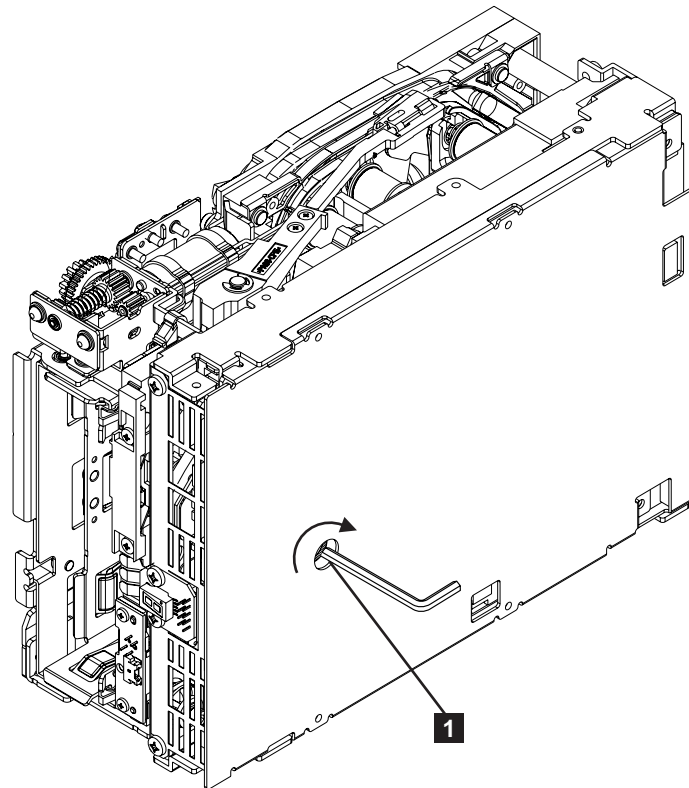

Figure 6-5. Using hex wrench to rewind tape into cartridge
6. From the bottom of the drive, locate the access hole (**1** in Figure 6-5) in the bottom cover. Insert a 2.5 mm offset hex wrench through the bottom cover access hole and into the reel motor axle. begin spooling tape back into the cartridge by turning the hex wrench clockwise.